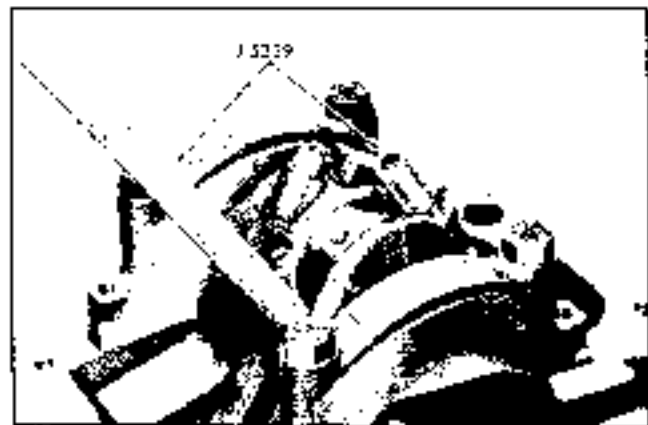

Fig. 6-113 Connecting Rod Bolt Guide Set Installed
5. Install connecting rod bolt guide set J 5239 on connecting rod bolts (Fig. 6-113).
6. Carefully remove connecting rod and piston assembly by pushing out with knurled handle of long guide (Fig. 6-113).